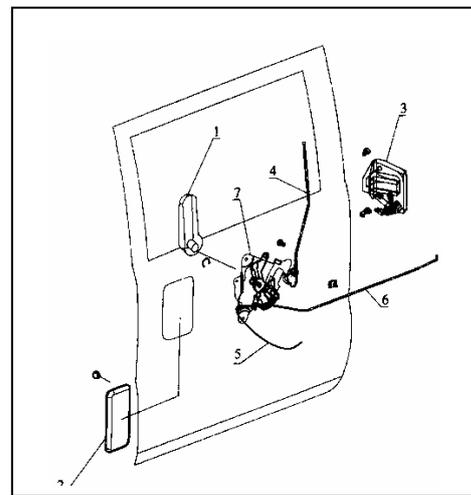

Fig. 19-18
- 2. Slide door lock as shown in Fig. 19-18: